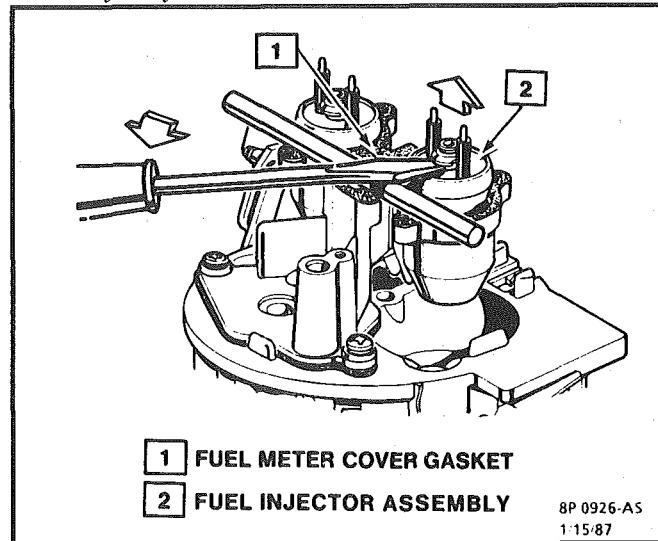

Figure C2-11 - Removing TBI 220 Fuel Injector
3. With fuel meter cover gasket in place to prevent damage to casting, use a screwdriver and fulcrum to carefully lift out each injector (Figure C2-11).